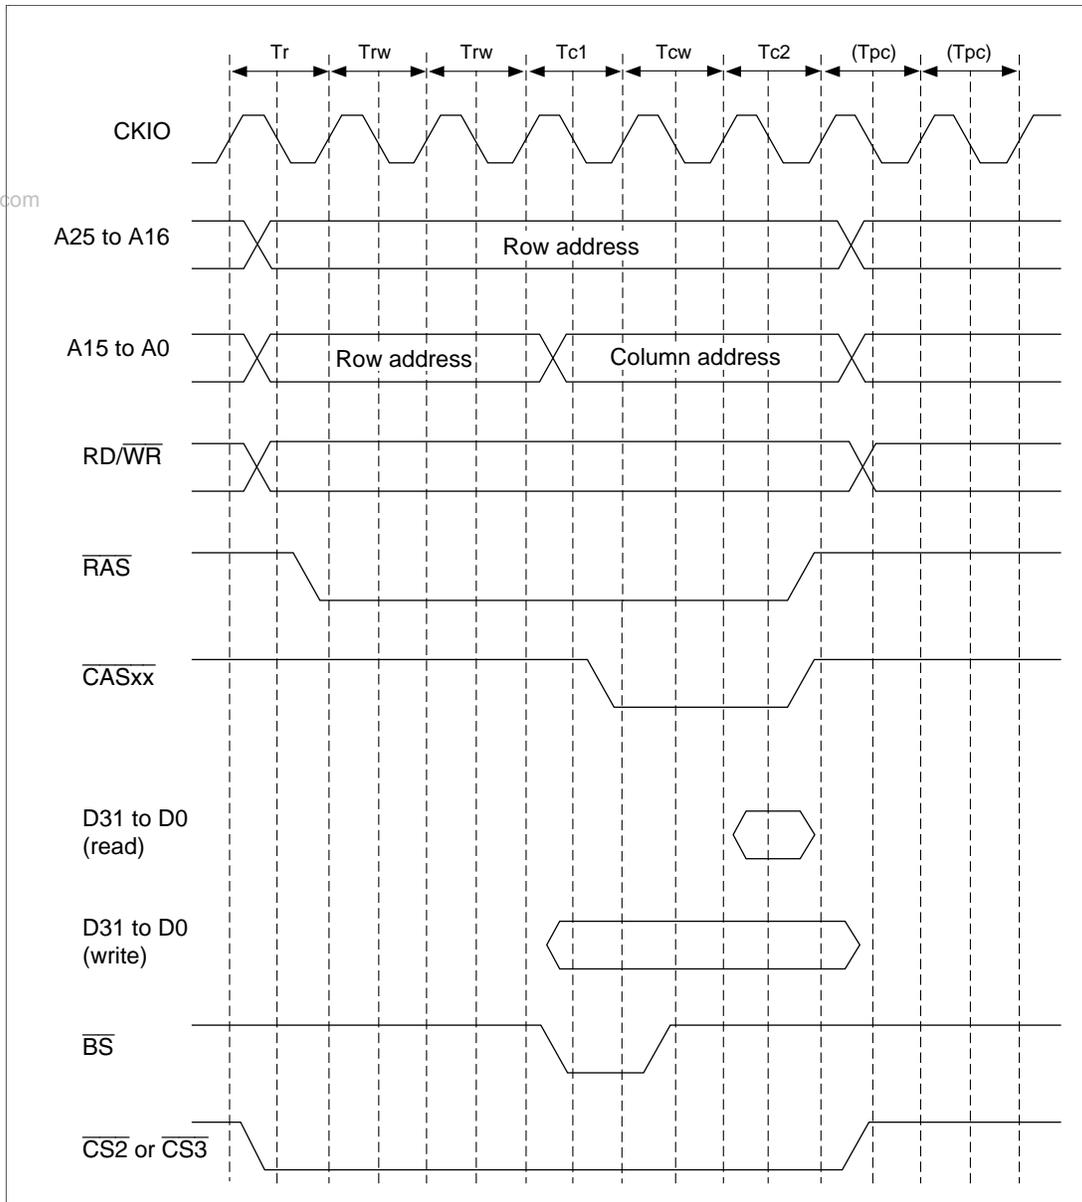

Figure 10.15 DRAM Wait State Timing
**Wait State Control:** As the clock frequency increases, it becomes impossible to complete all states in one cycle as in basic access. Therefore, provision is made for state extension by using the setting bits in WCR2, MCR, and DCR. The timing with state extension using these settings is shown in figure 10.15. Up to four additional Tpc cycles (cycles used to secure the RAS precharge time) can be inserted by means of the TPC bits in MCR and DCR. However, if there is a DRAM access request immediately after an auto-refresh (CAS-before-RAS refresh), the interval until the next assertion of RAS is 2 cycles, regardless of the values in MCR and DCR. The number of cycles from  $\overline{\text{RAS}}$  assertion to  $\overline{\text{CAS}}$  assertion can be set to between 1 and 4 by inserting Trw cycles by means of the RCD bits in MCR and DCR. The number of cycles from  $\overline{\text{CAS}}$  assertion to the end of the access can be varied between 1 and 3 according to the setting of A1-2W (1,0) or A3W (1,0) in WCR2.